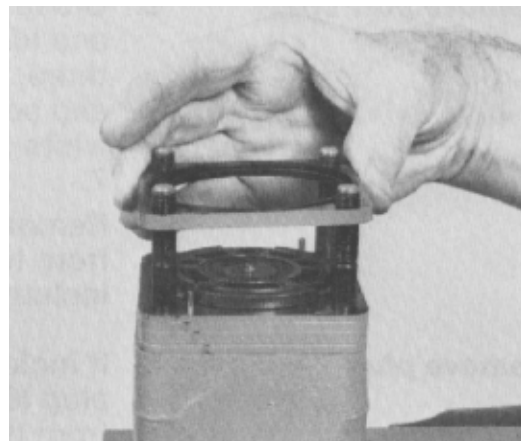
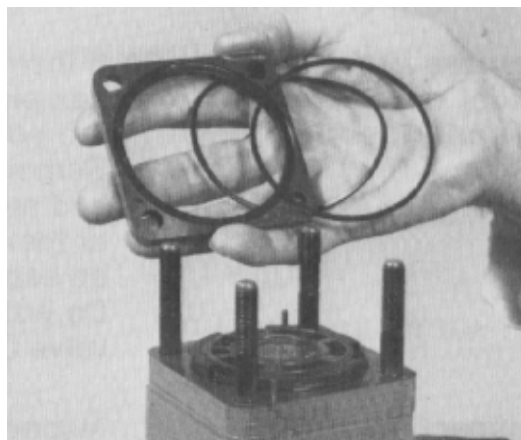

Figure 50
Figure 51
11. Remove the valve ring (Fig. 50). Remove and discard the two seal rings (Fig. 51). The valve ring should be free of nicks and scoring.